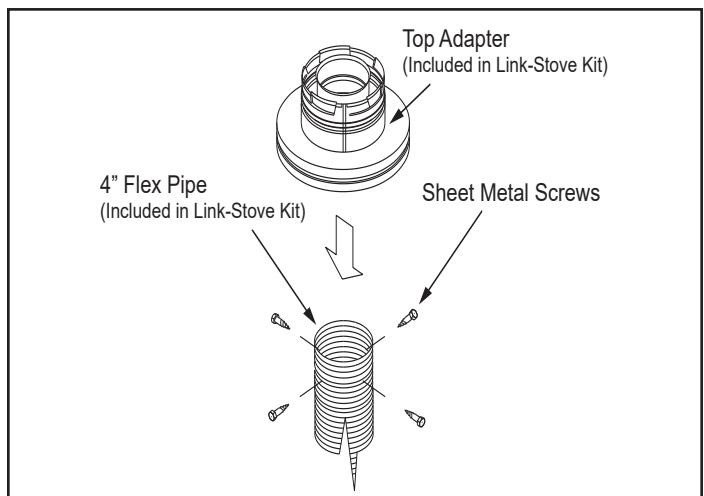

Figure 3.21
3. Connect the end of the flex pipe section to the underside of the top adapter, using four sheet metal screws. See Figure 3.21.